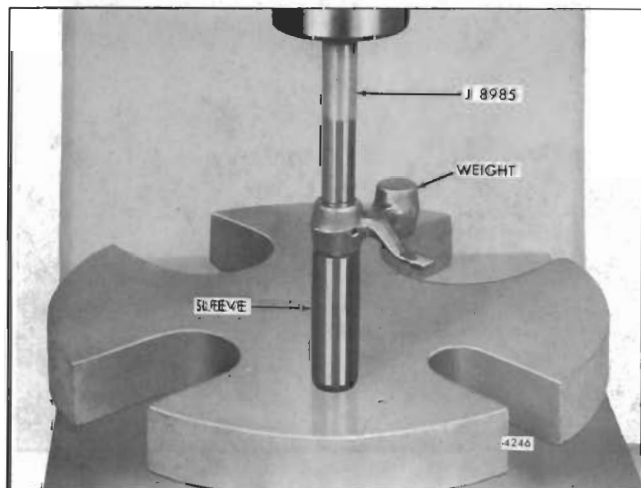

Fig. 12 - Removing Governor Weight Bearings
- d. If removal of the needle bearing is necessary, support the weight on a 5/8" inside diameter sleeve on the bed of an arbor press (Fig. 12). Place the bearing remover J 8985 on top of the bearing and under the ram of the press. Then press both bearings out of the weight.